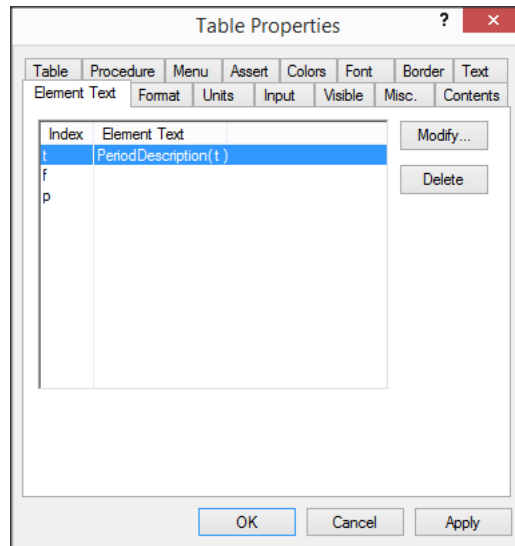

Figure 11.6: The **Element Text** tab of the **Table Properties** dialog box
- ▶ select the **Element Text** tab (see Figure 11.6),